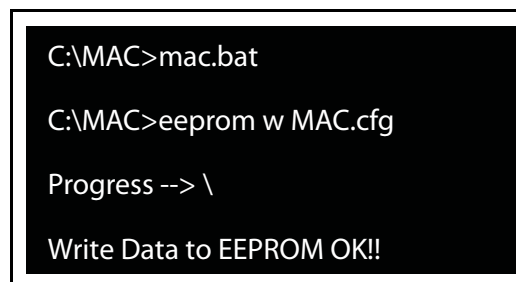

Figure 2-34. MAC.BAT
2. In DOS mode, run **MAC.BAT** to write MAC values to eeprom. (Figure 2-34)